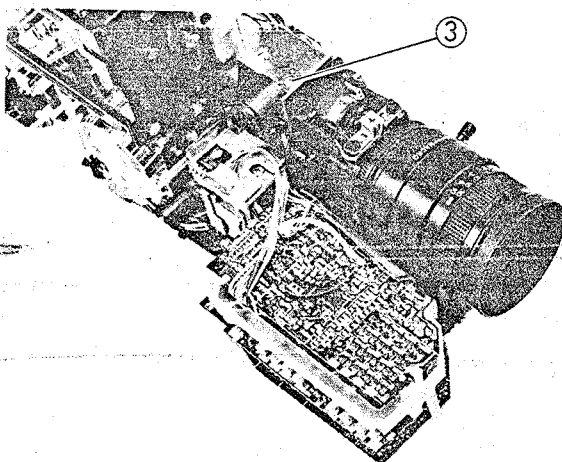

Fig. 2-41 EVF Connector Removal
3. Remove one (1) screw holding the EVF connector. (See Fig. 2-41)